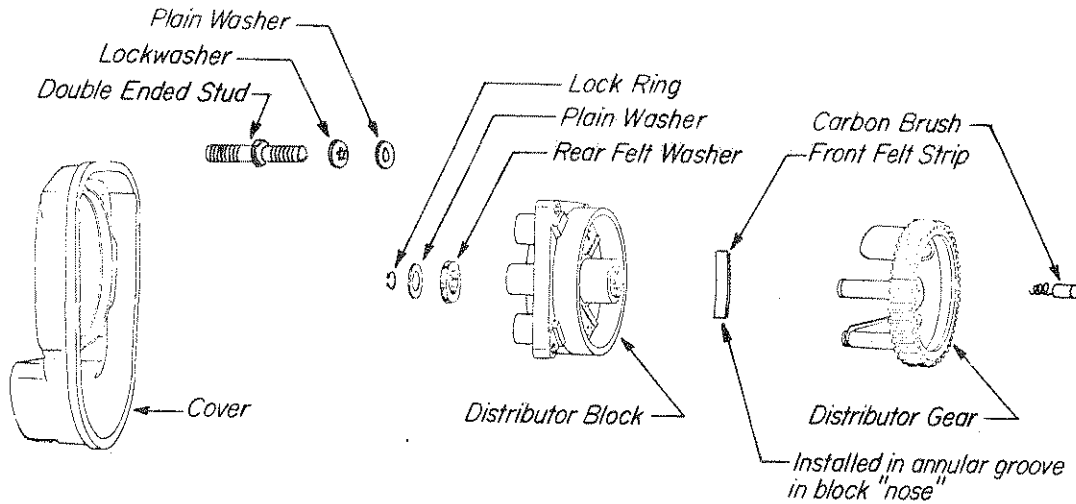

Figure 2. Partial Exploded View Showing Relative Location of Parts
6. Separate the distributor block and gear by removing lock ring. See figure 2.